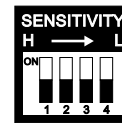

Figure 2
1. Set sensitivity to be **OFF** (Figure 2).